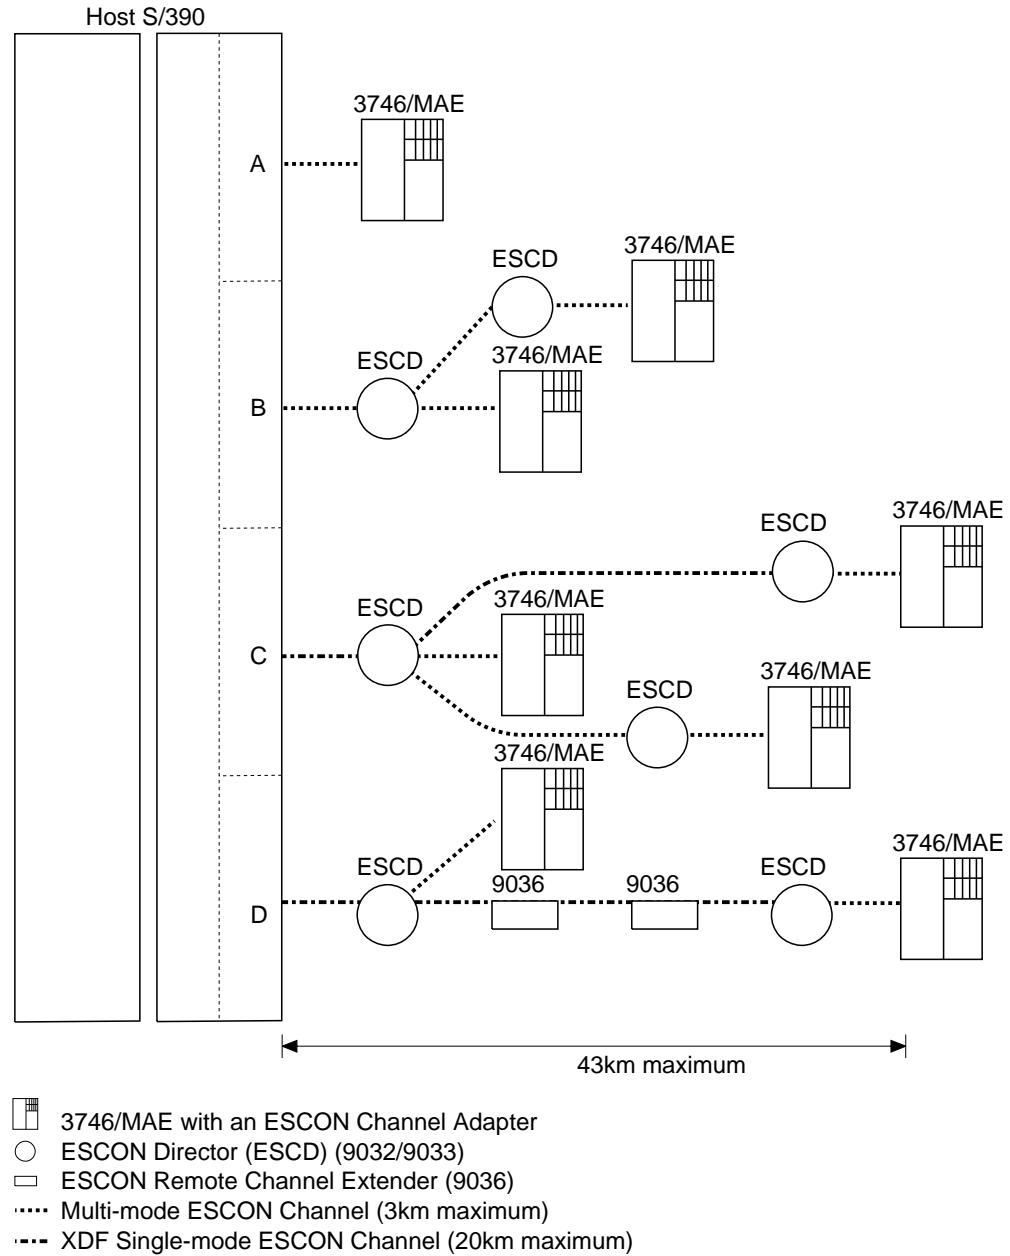

Figure 22-3. Single System ESCON Connection Example
See Figure 22-3 on page 22-8.
**Direct Attachment Between a S/390 Host and a Multiaccess Enclosure:** In Figure 22-3, connection A shows a multiaccess enclosure directly attached to a S/390 host channel. The separation of the host and the multiaccess enclosure can be up to 3 km (1.86 mi).